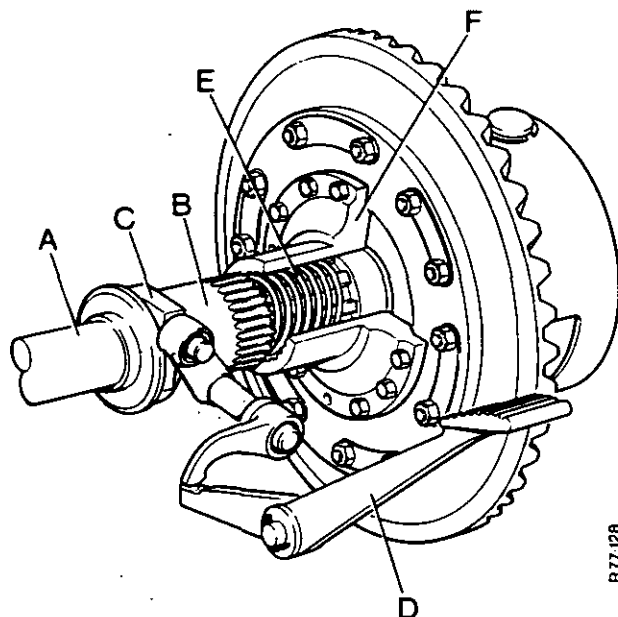

FIGURE 25 DIFFERENTIAL LOCK
Put your hand into the axle casing and pull the differential locking sleeve and spring away from the differential. See figure 25.
14. Install the differential locking sleeve using the tool shown in figure 2, page 2. See figure 25. Install the spring in the end plate. Put the locking sleeve on the tool with the splines away from the handle of the tool. Using the tool, put the locking sleeve into the axle casing. Push the tool toward the differential until the groove of the locking sleeve is behind the inner gusset of the casing.